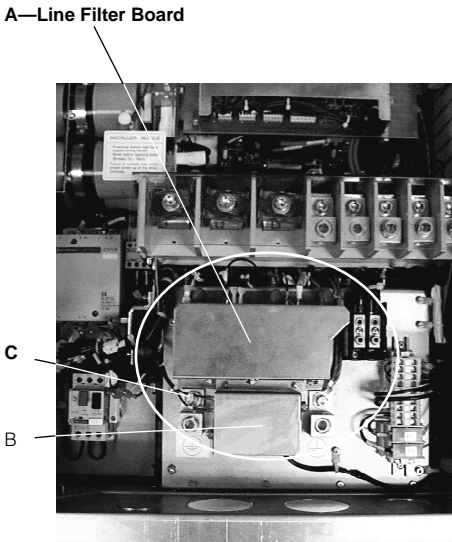
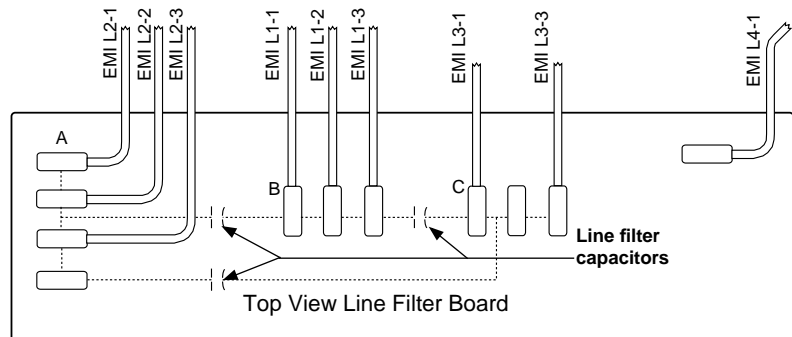

Figure 4.2.27: Fan Capacitor and Line Filter Board
Figure 4.2.28: Line Filter Board Connections
- Line filter boards. Refer to Figure 4.2.27 on page 4.2.53 and Figure 4.2.28 on page 4.2.54 for location.
2. Using a drive socket, loosen and remove the two mounting nuts and lock washers located at the bottom of the line filter board (**A**). The fan capacitor assembly (**B**), on top of the line filter board, is also secured with the same mounting nuts. (See Figure 4.2.27).
6. Using needle nose pliers, carefully transfer the nine connectors located at the top of the old filter board to the new filter board (see Figure 4.2.28). Remove the old filter board.
NOTE: Once the wiring has been connected to the line filter board, an ohmmeter check should be made from points A to B, B to C, and C to A of Figure 4.2.28. The ohmmeter should initially indicate a low resistance. The resistance should gradually increase over a period of 5-10 seconds as the filter and bus capacitors within the controller charge. Continuous low resistance is an indication of a mis-wiring of the filter board and possible phase-to-phase short circuit on the input wiring of the controller.